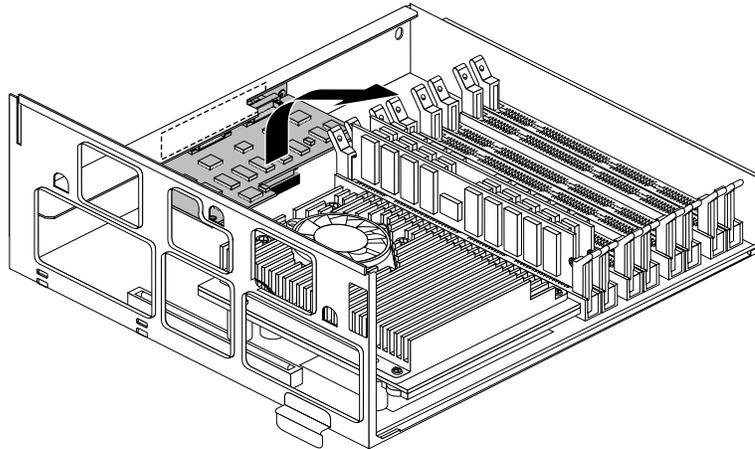

Figure 1-27 Removing the Dual Channel Display Board
5. Grasp the board on either side and gently rock it out (Figure 1-27). Do not exaggerate the rocking motion, or you might bend the pins.